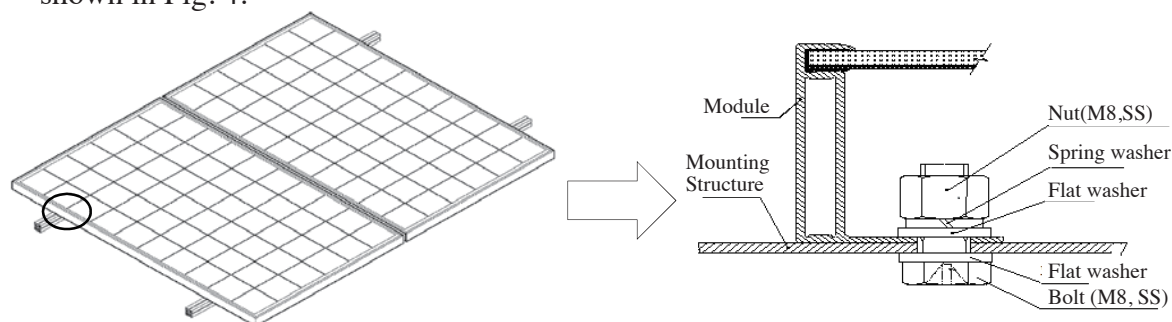

Figure 3 Mounting holes
- Mounting hole system: Use the corrosion-resistant M8 bolt, for fixing with the installation support through the installation hole in the side frame of the module, as shown in Fig. 3.